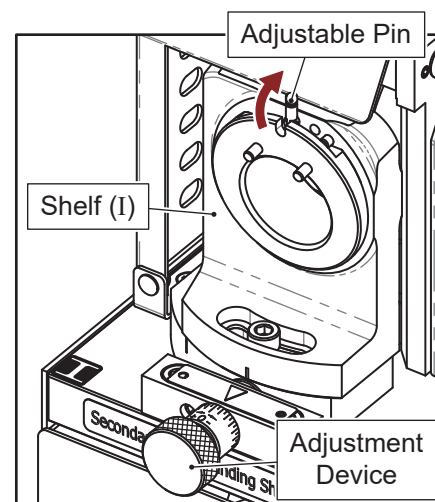

Fig. 12-1
1. Secondary Relief Grinding Shelf (I) (Fig. 12-1)
- ① Move the adjustable pin on the Shelf (I) from the bottom to top.
- ② Adjust the cutting face adjustment device to “0”, after finishing the whole sharpening procedure, then adjust this device according to your needs. (See chapter “IX. The use of the Cutting Face Adjustment Device”)